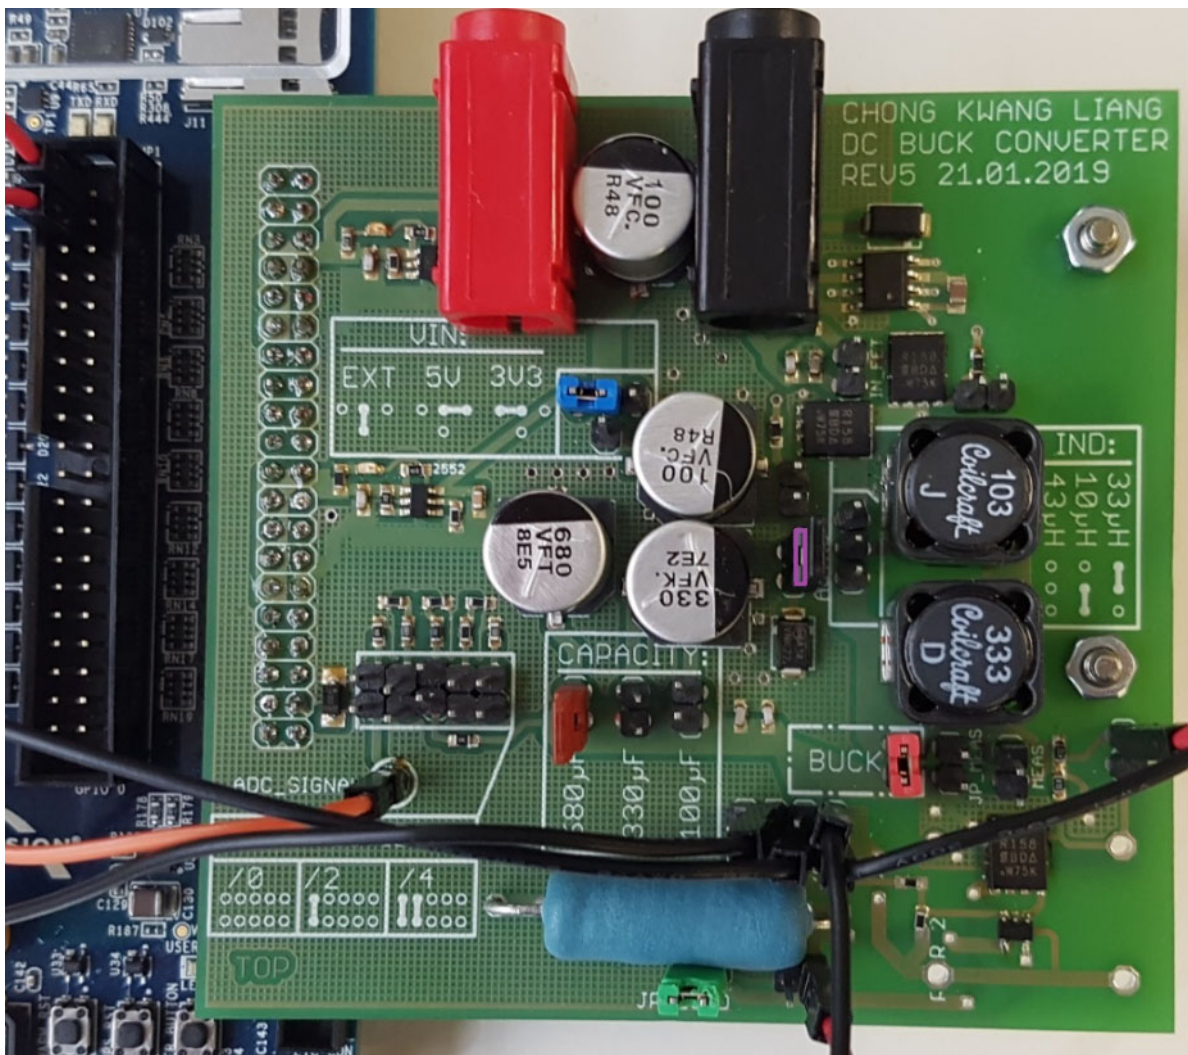

Fig. 3.0: DCDCbuck board setup for first tests.
Plug daughterboard DCDCbuck into user header JP2 (=gpio_1) of DE1-SoC board (Fig. 3.0).
- Set jumper 3V3 (blue in Fig. 3.0) to supply the daughter board with 3.3V. If a red LED lights up, then the current limiter was activated by a current peak. You will have to unplug the DCDCbuck daughter board or switch off DE1-SoC board to reset the current limiter.
- Set jumper JP_Buck (red in Fig. 3.0) to get a current path to the output.
- Set jumper JP_Load (green in Fig. 3.0) to enable the load current circuitry.
- Set jumper 680uF (brown in Fig. 3.0) to connect the load capacitor
- No need but nice to have for better efficiency: Set jumper Async (pink in Fig. 3.0).
Look at the author's document *Quickstarting_DSoX2024_Oscilloscope.pdf* to handle the *DSO-X2024* oscilloscope. In the following, to connect "channel #" stand for: connect the red end of the BNC cable to # and the black end to ground. As can be seen from Fig. 2.1, there is a group of 2x4 ground pins to the right of label "100 μ F" near to the big blue load resistor. In Fig. 3.0 four black ends of BNC-cables are plugged onto these 8 pins, so that some of them cannot be seen in this figure.
- Connect **CH3 (blue)** of the oscilloscope to pin 3 (below pin 1, see -> Fig. 3.0) of user header *gpio_0* of the *DE1-SoC* board.